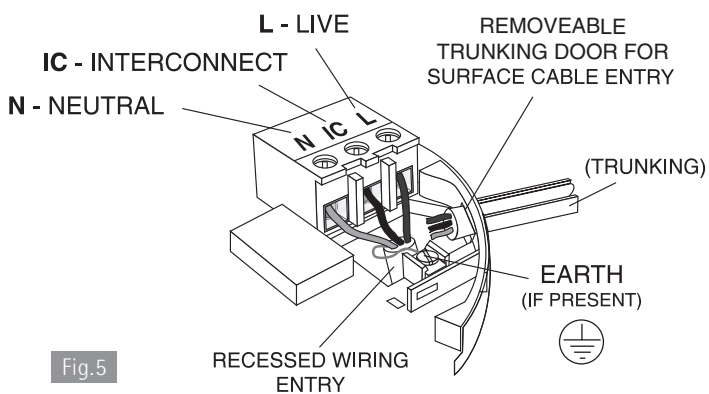

Fig.5
**IC: Interconnect** - see figures 5 and 6 and further information in Section 2.6.
**4.** If the mains wires are recessed, bring the wires through the rear hole in the mounting plate as shown in Figure 5.
- (a) position the mounting plate so the cable trunking is as shown in Figure 5.